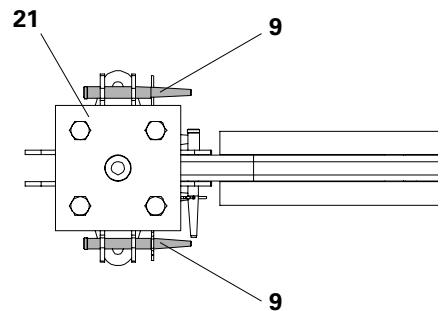

Fig. F3.03a
The lifting gear is attached to 4 Lifting Pins $\text{Ø} 21 \times 120$ (9) which are mounted on the Prop Connector VST 48 (21). (Fig. F3.03a)